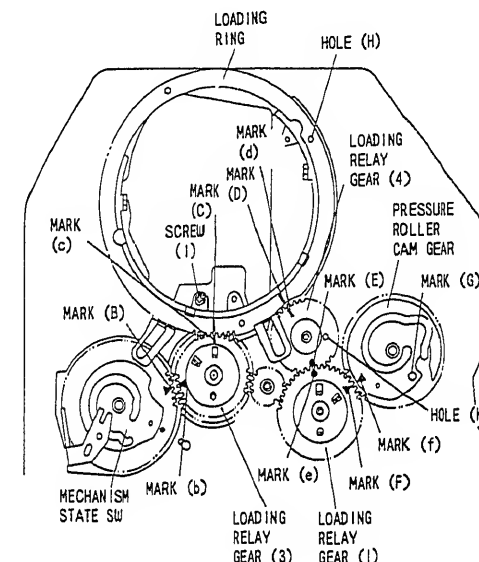

Fig. 3-2
## 3-2. Loading Gears and Loading Ring (Figs. 3-2, 3-3)
- 1) Align the markings of the loading ring and gears as shown in Fig. 3-2.
- ① Set the upper and lower loading rings to the state shown in Fig. 3-2. (Watch the guide roller fixing section.)
- ② Move the upper and lower loading rings so that holes (H) overlap each other.
- ③ If holes (H) overlap each other, the phase of the loading ring is correct.
- ④ If holes (K) overlap each other, the phase of the loading relay gear (4) is correct.